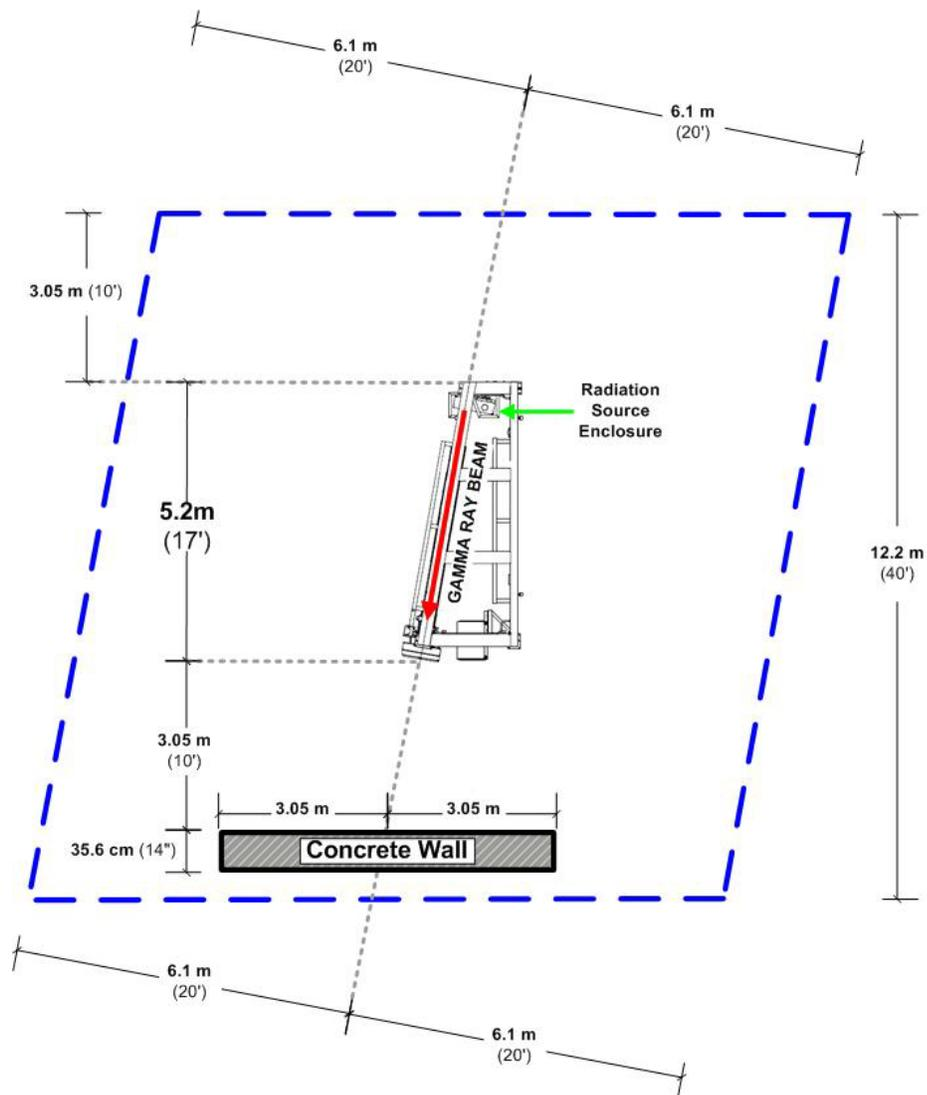

Figure 2: Radiation Controlled Area with Shield Material
- The size of the Radiation Controlled Area may be reduced with the addition of concrete or similar shielding materials. (See **Figure 2**.)